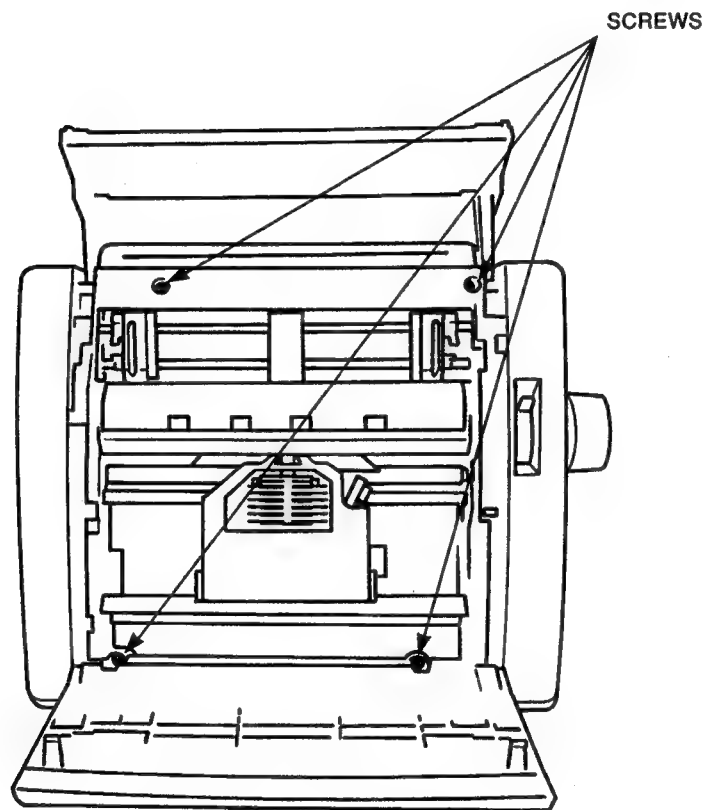

Figure 3-2 Middle Cover Assembly Removal
3. Loosen the four screws on the middle cover (see Figure 3-2).